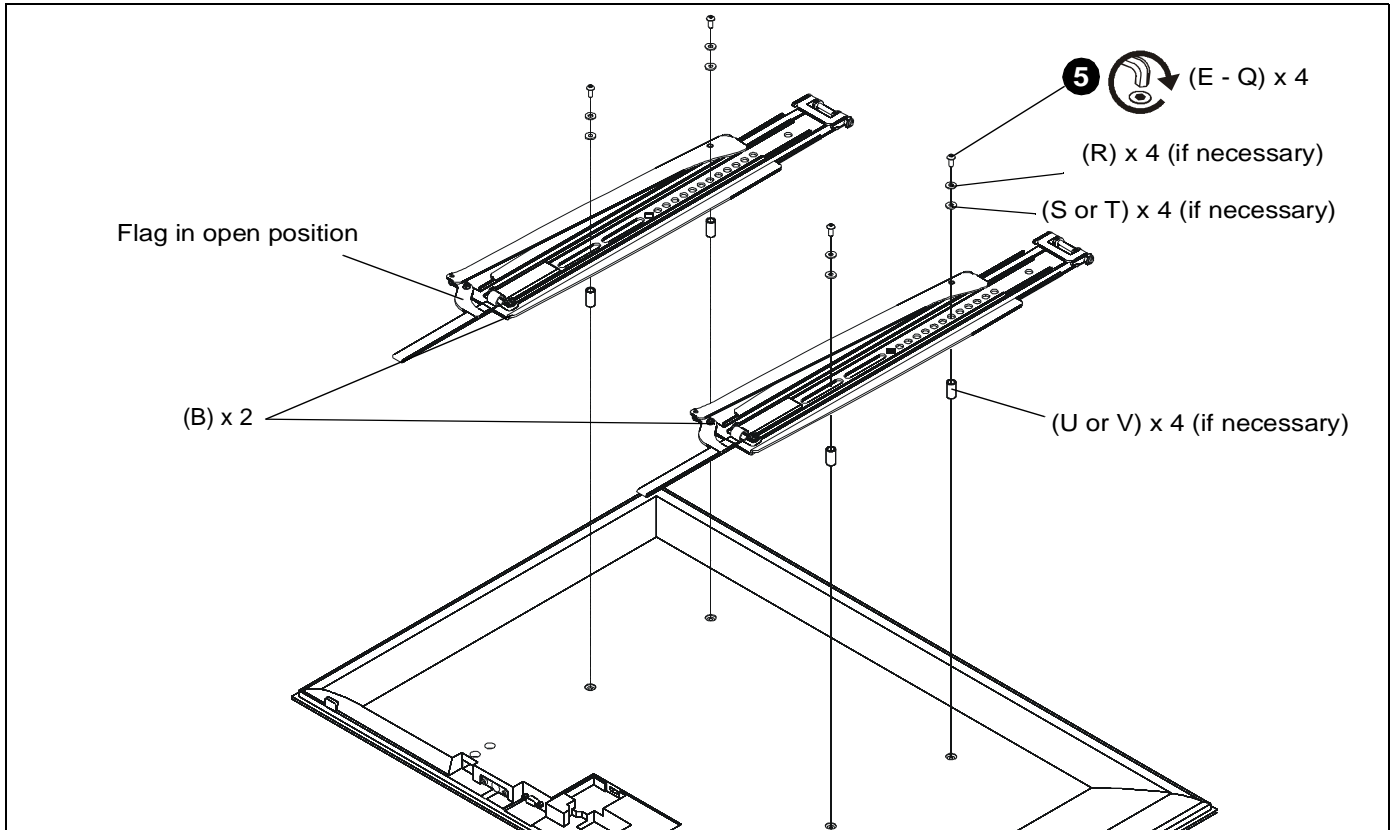

Figure 4
5. Install four button head cap screws (E - Q) through required washers (R) and shoulder washers (S or T), interface brackets (B), spacers (U or V) and into holes on back of display. (See Figure 4)
NOTE: Make sure locking flags are in the open position before attaching display to wall plate. Flags are shown in the open position in Figure 4.